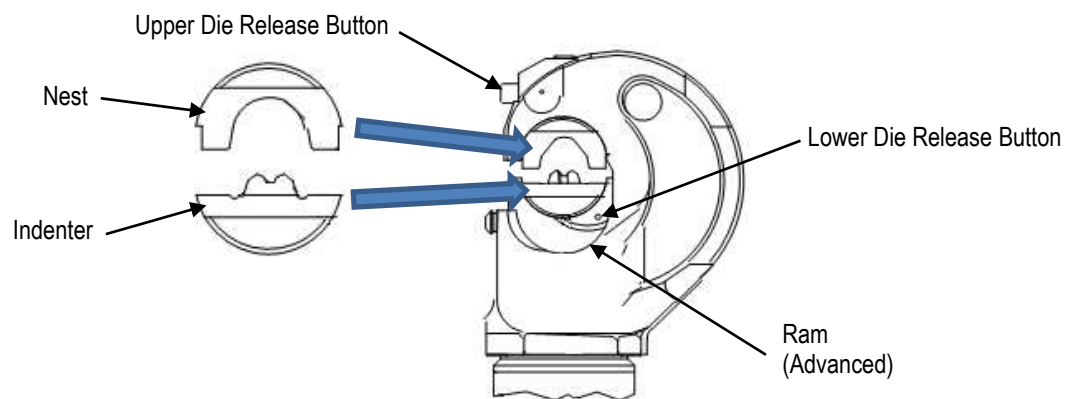

Figure 3
#### 3.1. Die Installation (Figure 3)
2. Slide the nest into place in “C”-head. See Figure 3.
6. Slide the indenter into position in the ram. See Figure 3.
#### 3.2. Die Removal (Figure 3)